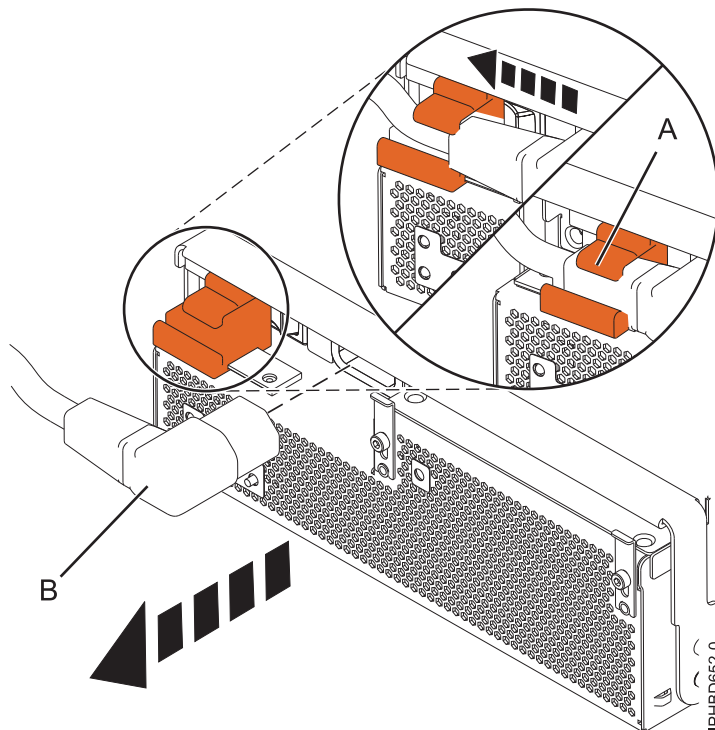

Figure 8. Disconnecting the power cable from the front of an expansion unit
5. For the power supply that you want to remove, slide the cable retention bracket to the open position (A), and then disconnect the power cable (B) as shown in Figure 8. By moving the bracket to the open position, you turn the power supply off.